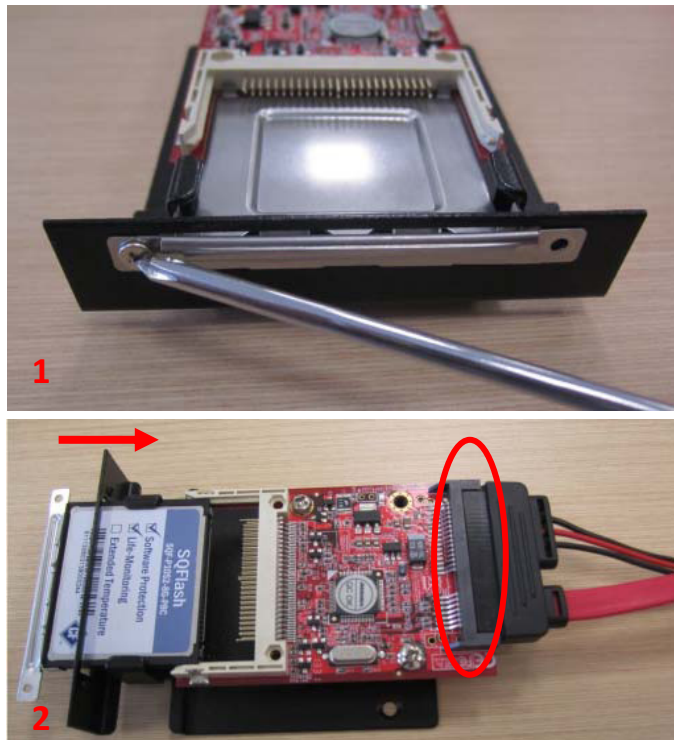

Figure 2.46
2. Retrieve the CF module card from the module case and remove the two screws at the sides of the metal tray (1). Affix the CF module card to the top of the metal tray. Then insert the tray in the direction shown in Fig. 2.46 and connect the SATA-to-SATA power cable (2).